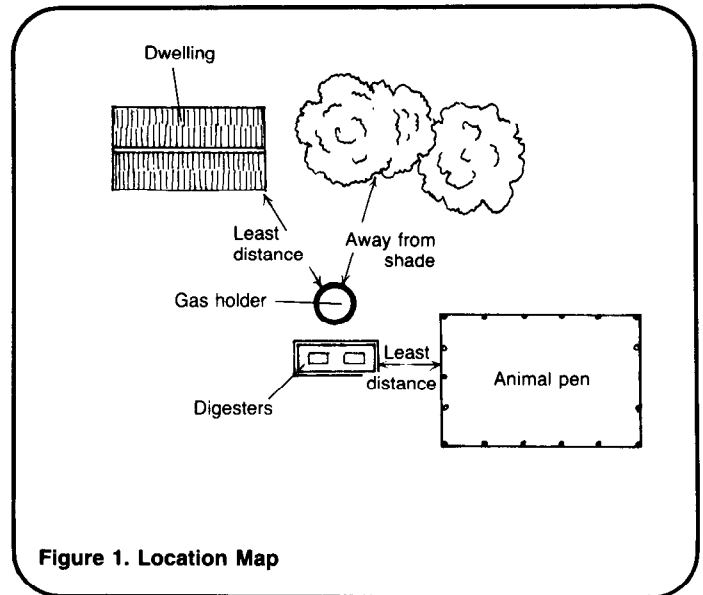

Figure 1. Location Map
- 1) Location map similar to Figure 1,